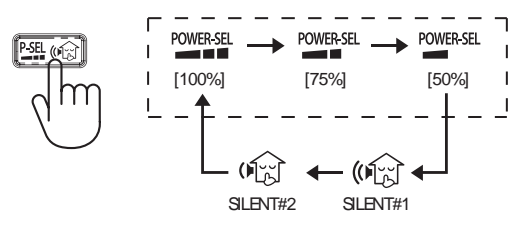

Fig. 15-1-2
- Take the remote controller to direction of LED display on air conditioner, press button up (▲) at ON of the remote controller (Fig. 15-1-2) 1 time to send the code "07" (within 3 sec. after press [RESET] button), then air conditioner will shutdown automatically. Also, LED display will show flash follow the table below.